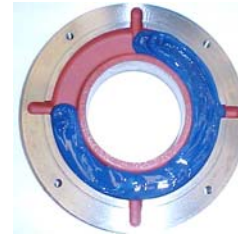

Figure 7.6: Outer bearing cap
- Fill up to $\frac{3}{4}$ of the inner and outer bearing cap deposits with the recommended grease (Figure 7.6) and lubricate the rolling bearing with enough grease before assembling it;